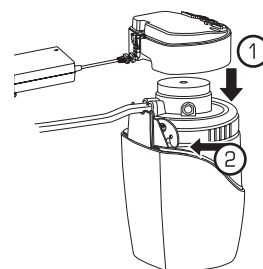

Fig. 47
1. **Replace** the Electronic Module ①. **Store** the Tubing Removal Tool for future use ② (Fig. 47).